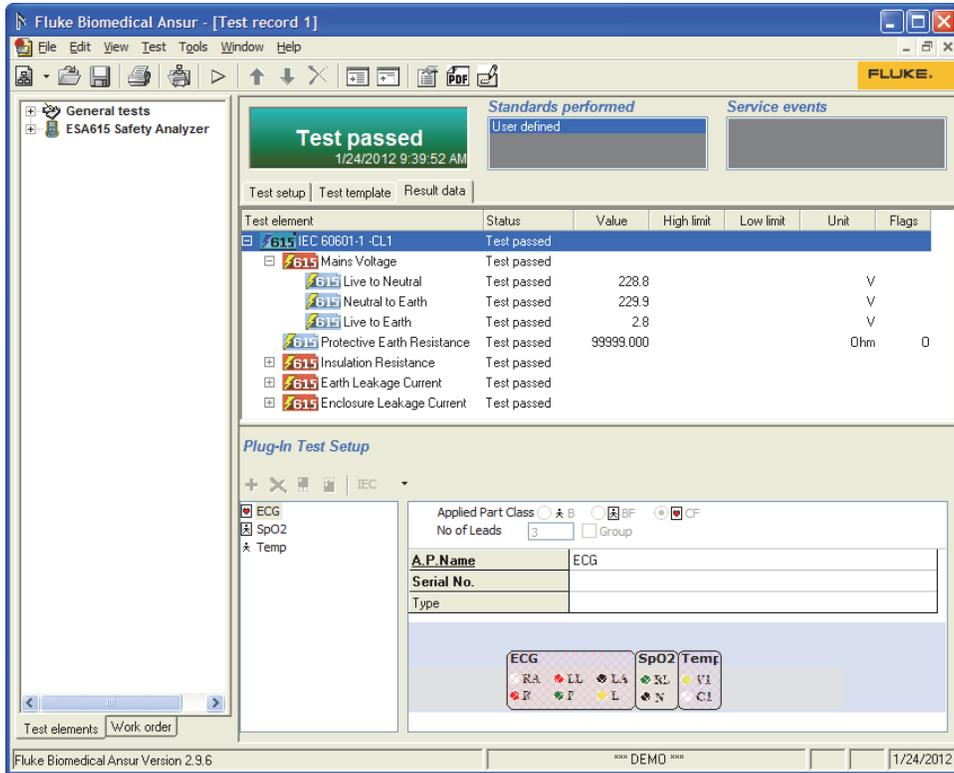

Figure 6-13. Test Record
- To make a Test Record, click the **Next** button (→). The test summary window closes and a test record is opened in the main Ansur window as shown in Figure 6-13.